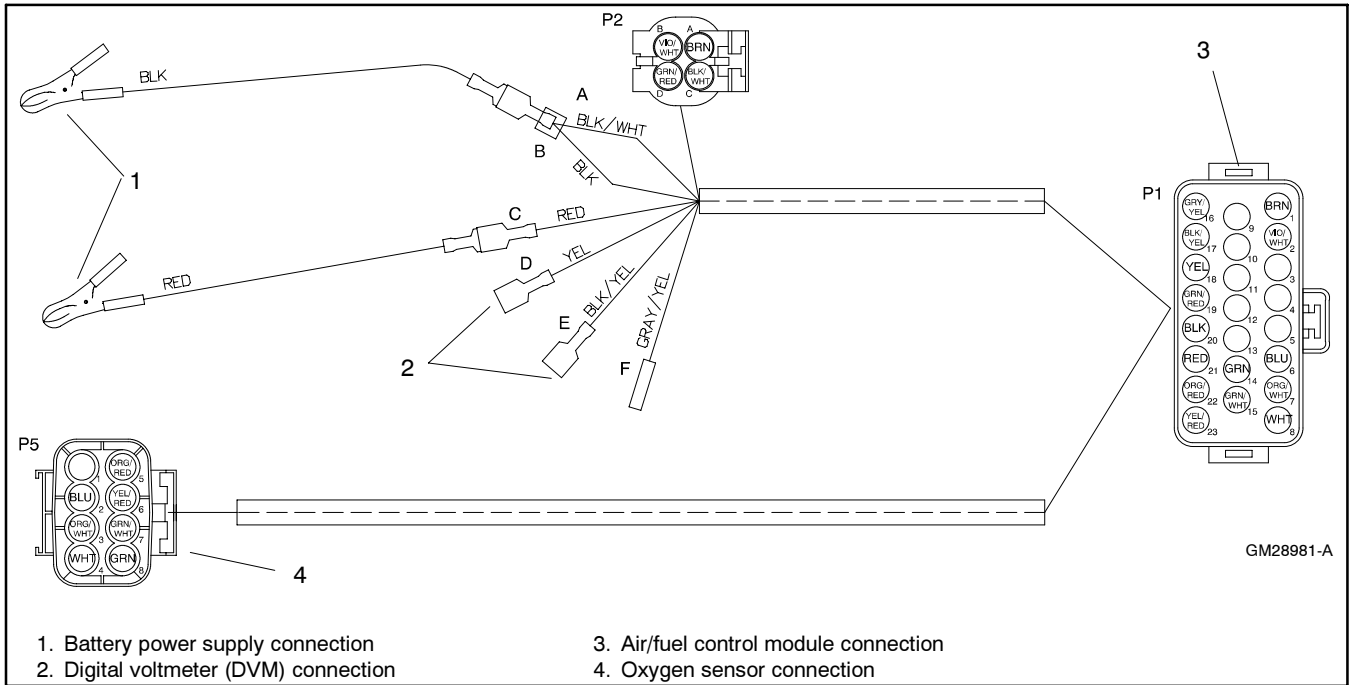

Figure 7-41 Sensor Interface Harness GM28981 Electrical Connections
- c. Connect the oxygen sensor (GM28980) to the interface harness (GM28981). See Figure 7-41.